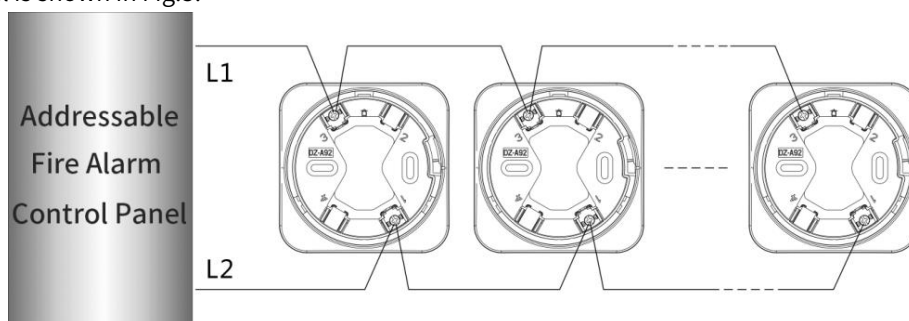

Fig.3
5.2 Wiring mode: The audible and visual alarm is connected to the compatible fire alarm control system through the two-wire bus, and the non-polar connection is adopted. The L1 and L2 of the bus are connected to the 1 and 3 ends of the supporting base. The diagram of multiple audible and visual alarms connected to the addressable fire alarm control panel is shown in Fig.3.
- b. Disconnect the power supply of the controller and connect all bases according to Fig.3.